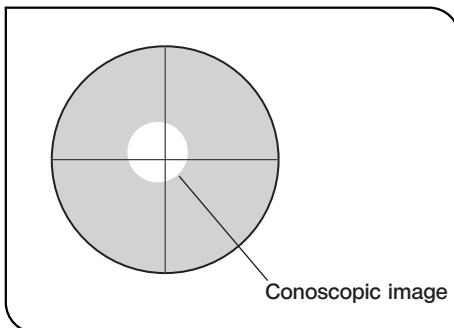
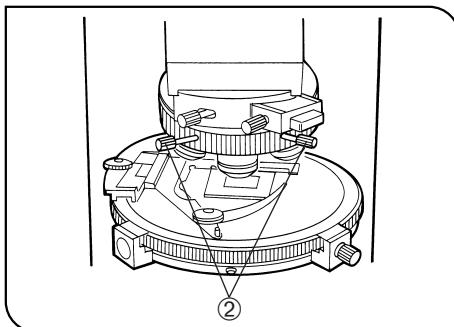

Fig. 26
Fig. 27
6. To brighten and facilitate observation of the conoscopic image during optical axis adjustment, rotate the analyzer slightly away from the position of total extinction. (Fig. 26)
7. Insert the two provided centering wrenches ② into the centering holes for the primary hole with the 20X or 10X objective on the nosepiece.
8. Manipulate the centering wrenches ② to bring the bright center portion of the conoscopic image into the center of the field of view (Fig. 27)